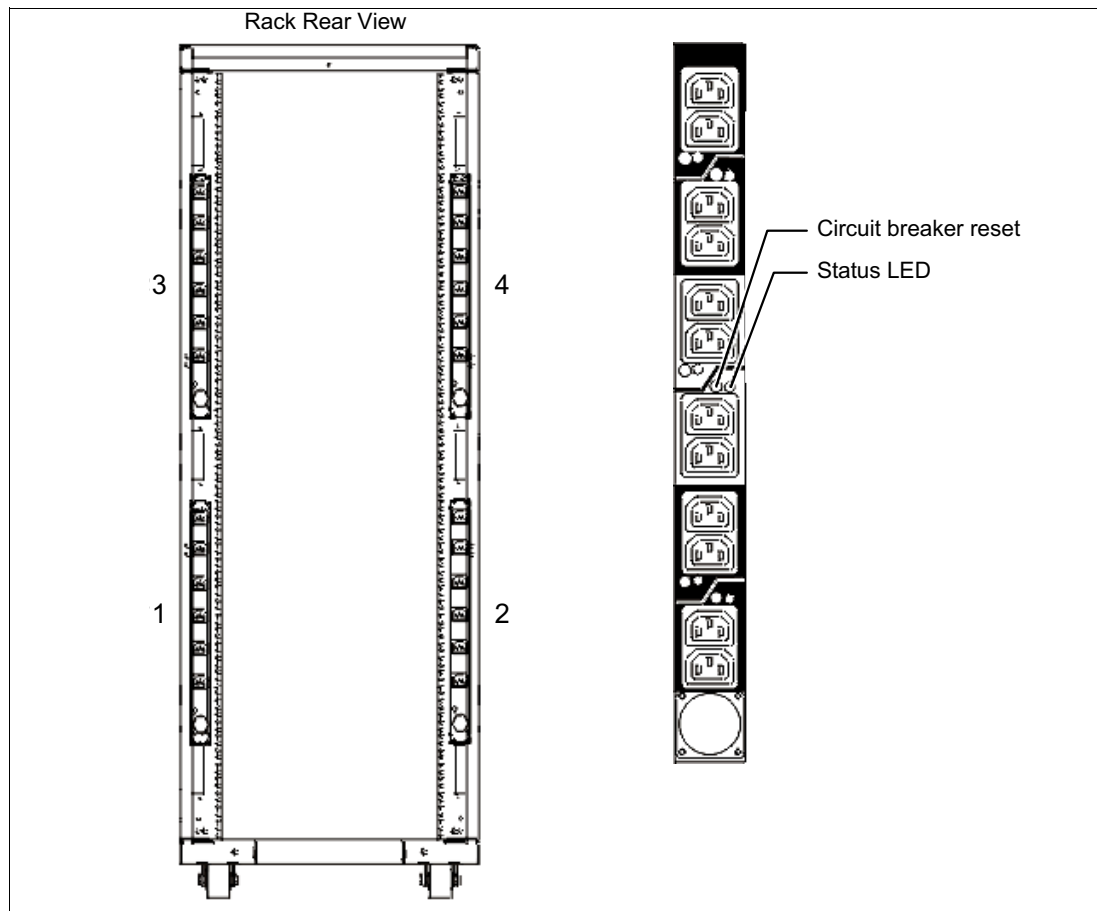

Figure 1-16 Power distribution unit placement and view
- ▶ Up to four power distribution units (PDUs) can be mounted in the PDU bays (see Figure 1-16 on page 35), but others can fit inside the rack. For more information, see 1.6.7, “The AC power distribution unit and rack content” on page 33.
Figure 1-16 shows the placement of the four vertically mounted PDUs.